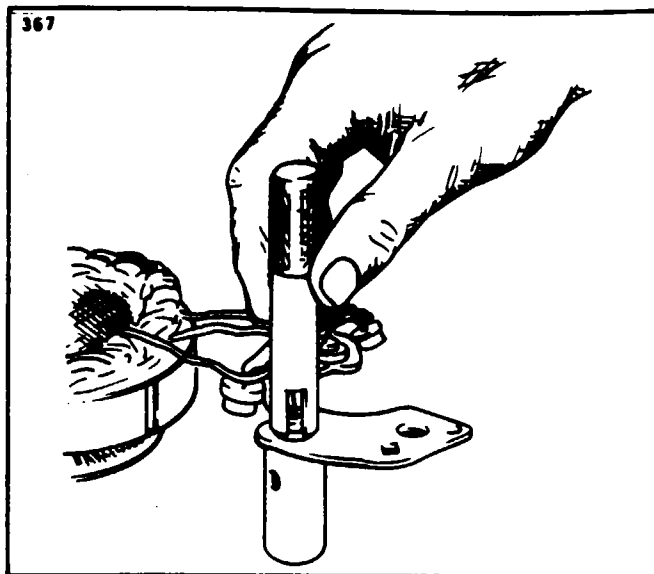

Figure 11-12. Installation of Rectifier
b. Carefully install the rectifiers in the slip ring end head or rectifier mounting plate by supporting the unit and using the special tools illustrated in Figure 11-12.